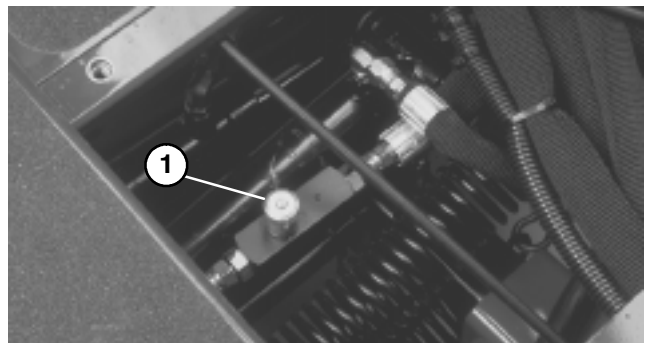

Figure 62
ADJUSTING CUTTING UNIT LIFT RATE (Fig. 62 – 64)
1. Locate valve behind access panel above operator's platform (Fig. 62).